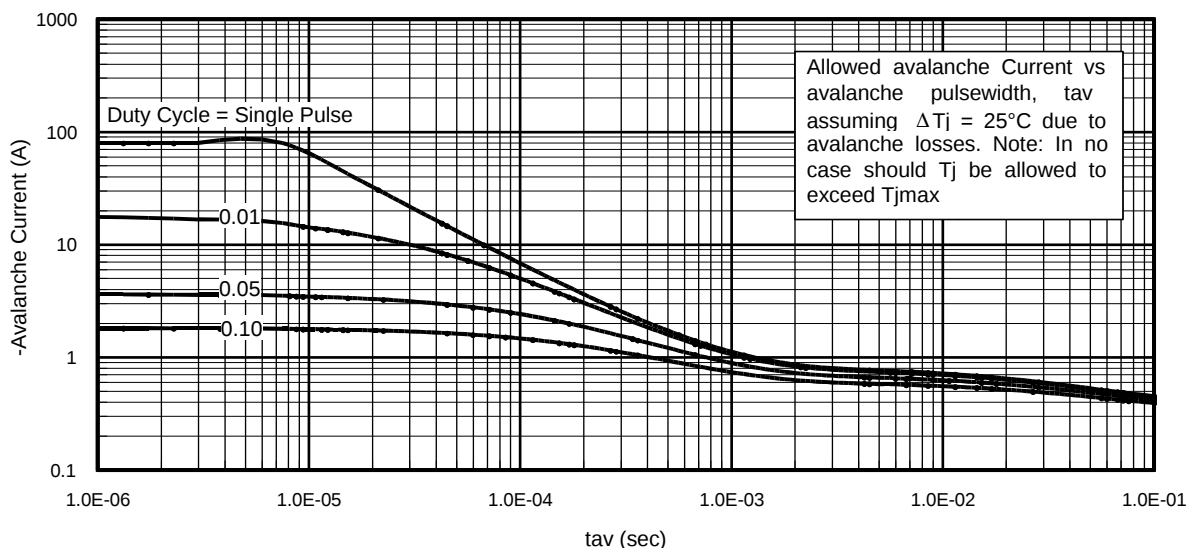

Fig 14. Typical Avalanche Current Vs. Pulsewidth
Notes on Repetitive Avalanche Curves , Figures 14, 15:
7. ΔT = Allowable rise in junction temperature, not to exceed T_{Jmax} (assumed as 25°C in Figure 14, 15).
- ① Repetitive rating; pulse width limited by max. junction temperature.
- ② Starting $T_J = 25^\circ\text{C}$, $L = 3.89\text{mH}$, $R_G = 25\Omega$, $I_{AS} = -10\text{A}$.
- ③ Pulse width $\leq 400\mu\text{s}$; duty cycle $\leq 2\%$.
- ④ R_θ is measured at T_J of approximately 90°C .
- ⑤ Limited by $T_{j\text{max}}$. See Figs. 14, 15, 17a, 17b for repetitive avalanche information